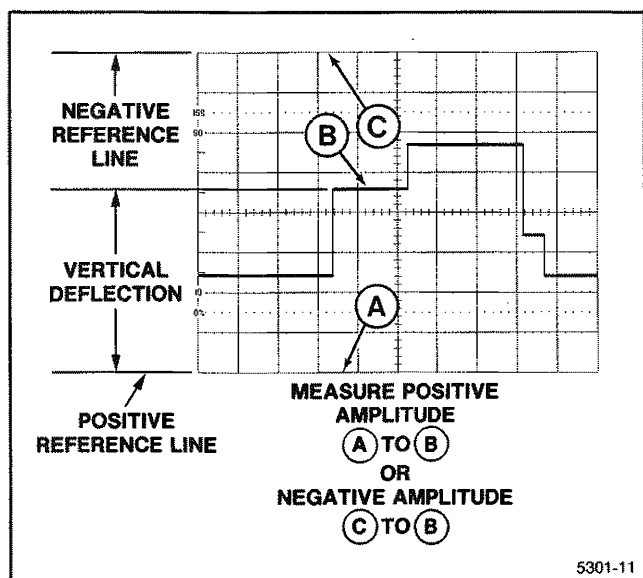

Figure 6-2. Ground referenced voltage measurement.
4. Set the AC-GND-DC switch to DC. Measure the divisions of vertical deflection between the reference line and the desired point on the waveform (see Figure 6-2).
EXAMPLE: The vertical distance measured is 4.6 divisions (see Figure 6-2). The waveform is above the reference line, the VOLTS/DIV switch is set to 2 V, and a 10X scale-factor-switching probe is used.